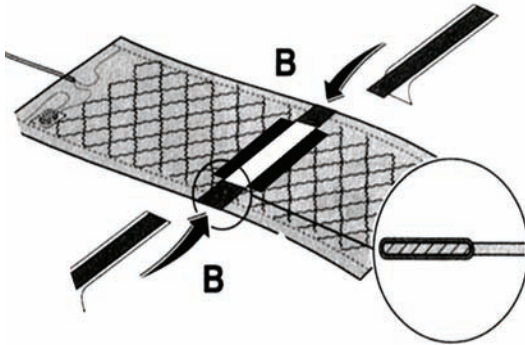

Figure 6
10. Cut out the marked area. With the section removed, wrap the lateral “bridges” with the black insulation tape. Repeat procedure on remaining sides of the cut out. Refer to Figure 6.